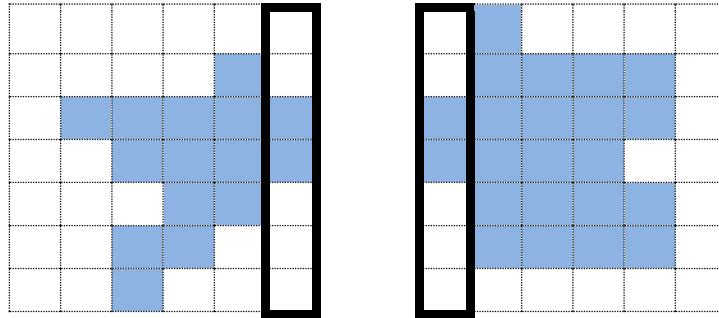

Figure 1
- 1) last time when I tried stitching the result of partitioning(cause partition is processing in a parallel manner), I used one pixel overlap and I think the situation should like that shown in Figure 1, that is, different segments of the same part should share the same boundary. Unfortunately, it's usually not the case.